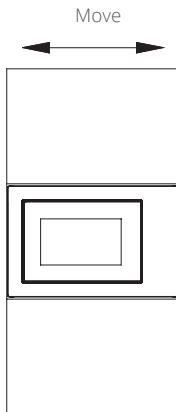

Fig. 3
- c) Move the product in parallel in the kitchen cabinet according to the direction of the arrow in the figure, and keep it centered. (Fig.3)